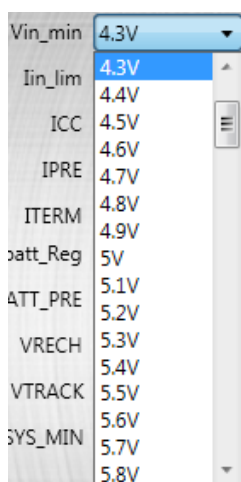

Figure 6: Input Voltage Regulation Threshold Setting
4. Set the input voltage regulation threshold (see Figure 6). Its range is 3.7V to 15.2V, and the default value is 4.3V. Set it according to the V_{BATT_REG} setting. For example, if V_{BATT_REG} is set to 4.35V, this value is recommended to be set to 4.6V or higher.